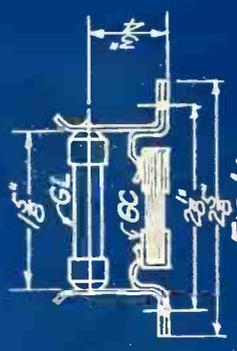

FIG. 1A
Fig. 1A shows how the condenser and leak clips can be made out of thin sheet brass when they cannot be obtained at your local radio store. A flat Muter type condenser (GC) is held by grooves in the clips while the usual cartridge type leak (GL) is held by depressions sunk in the tops of the clips.